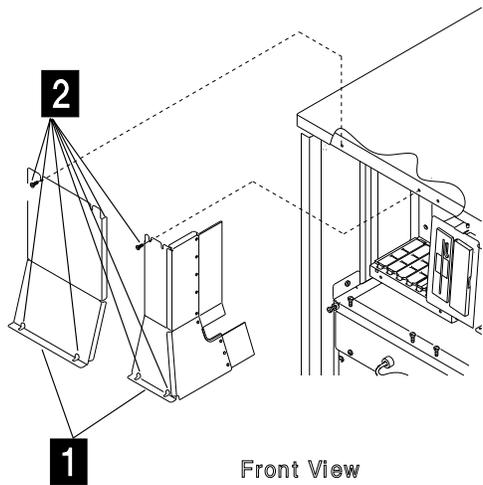

Figure 4-72. MOSS Covers
10. Refer to Figure 4-72. Remove the MOSS board covers **1** (seven screws must be removed **2**).
4. Re-install the covers of the MOSS board **1** with the seven screws **2**. Refer to Figure 4-72 on page 4-54.